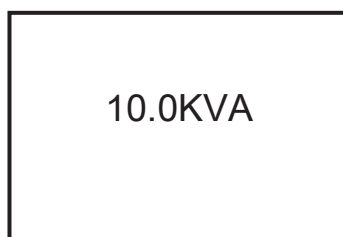

Fig.1 : Main interface
- 1) The main interface below comes out when the power is connected or the system is cold start. See Fig1